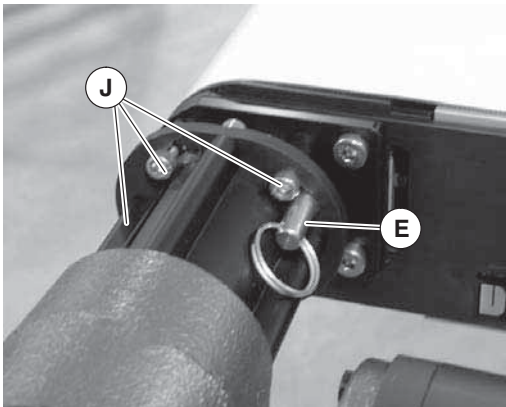

Figure 7
5. Tighten screws (Figure 7, item J) to 146 in-lbs (16.5 N-m) and install anti rotation pin (E).